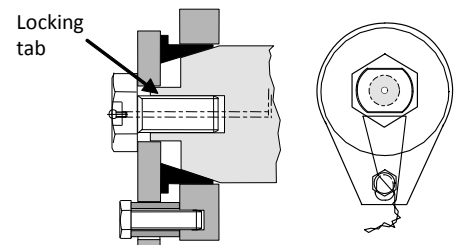

Fig. 3a
Applies to Bondura 6.2 dia 20-65 mm: NOTE! Remember that the locking tab on the bolt must fit into the slot on the locking plate (see Fig. 3a).
- 4.1 As an extra precaution, the locking plate must be fastened with a locking screw to the equipment. Use the clamping screw protector to ensure that the locking plate is not bent when tightening the locking screw (see Fig. 3a and 3b).